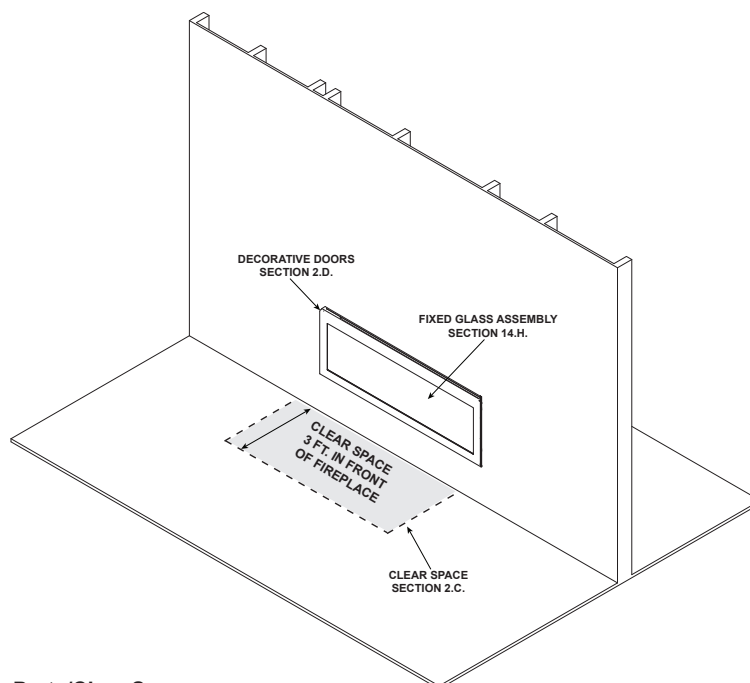

Figure 2.1 General Operating Parts/Clear Space.
**WARNING! DO NOT place combustible objects in front of the fireplace. High temperatures may start a fire. See Figure 2.1.**